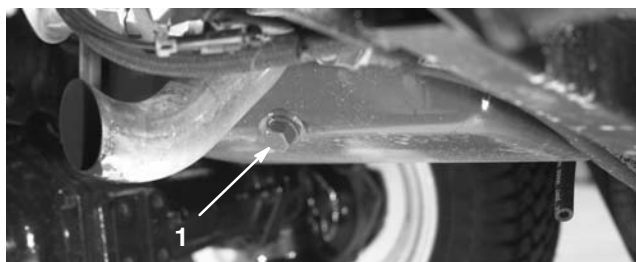

Figure 46
1. Remove either drain plug (Fig. 46) and let the oil flow into a drain pan. When the oil stops, install the drain plug.